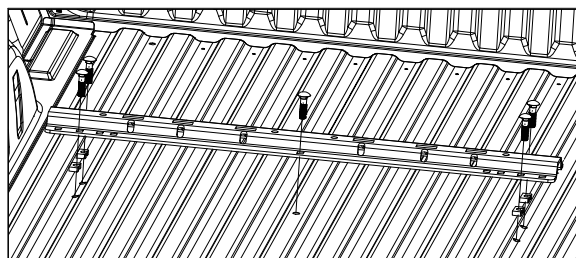

Figure D1: View looking into truck bed from rear of truck.
- 1. Install the rear mounting rail.** Reposition the rear mounting rail over the drilled 9/16" holes in the bed. Install a 1/2" x 2" carriage bolt through the mounting rail into each of the five drilled holes, as shown in Figure D1. Position the U-shaped spacers.